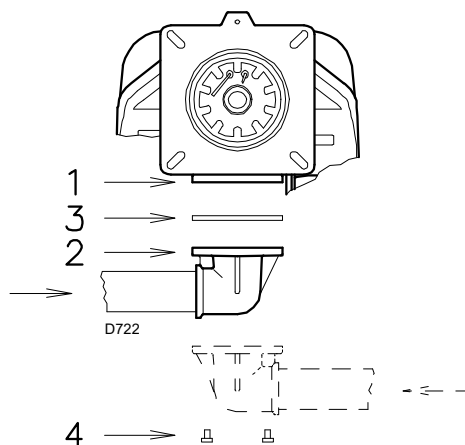

Fig. 28
- The gas train must be connected to the gas attachment 1) with the flange 2), the gasket 3) and the screws 4) supplied with the burner (Fig. 28).